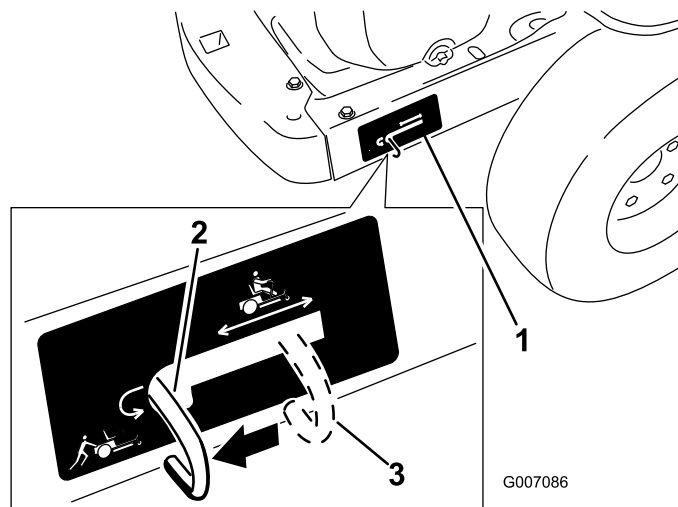

Figure 22
4. Move the bypass levers rearward and then down to lock them in place as shown in Figure 22 to disengage the wheel motors. Repeat this on each side of the machine.
Move the bypass levers upward and push them forward, to the **middle** of the horizontal slot (Figure 22) to engage the wheel motors.